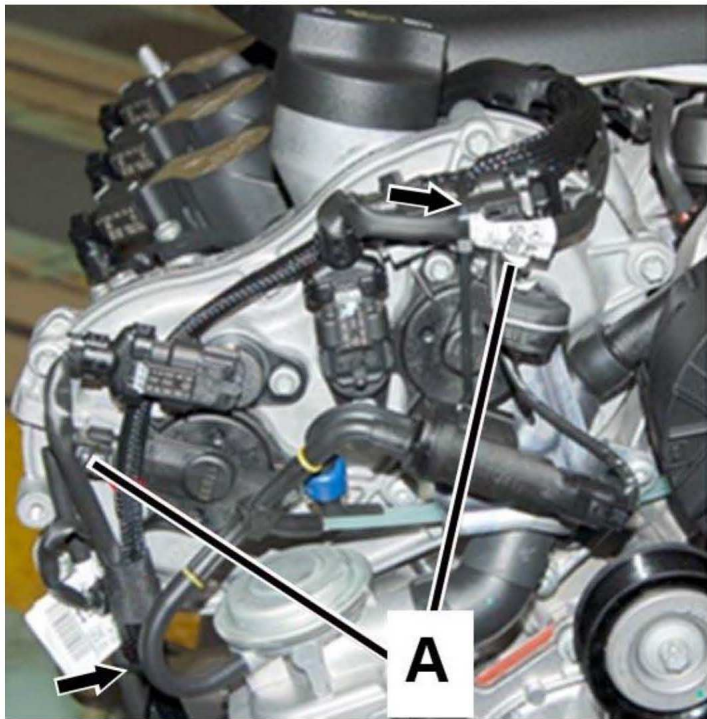

Figure 3
3. Connect adapter harnesses (A, Figures 3 and 4) shown above.
Note: Ensure harness adapters are properly secured using cable ties (arrows, Figures 3 and 4) to prevent wire chafing and/or damage from hot engine parts, (e.g. oil cooler [B]).